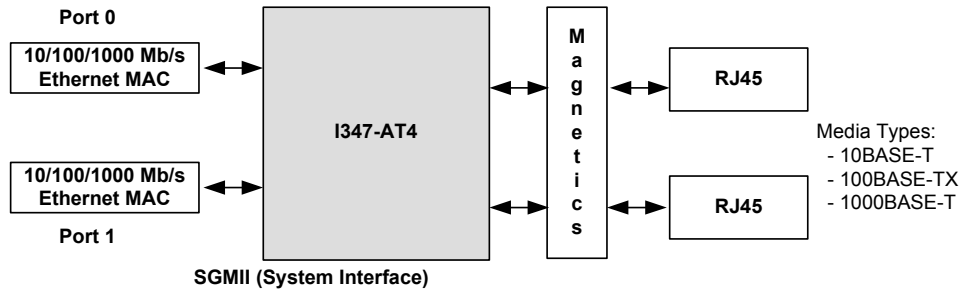
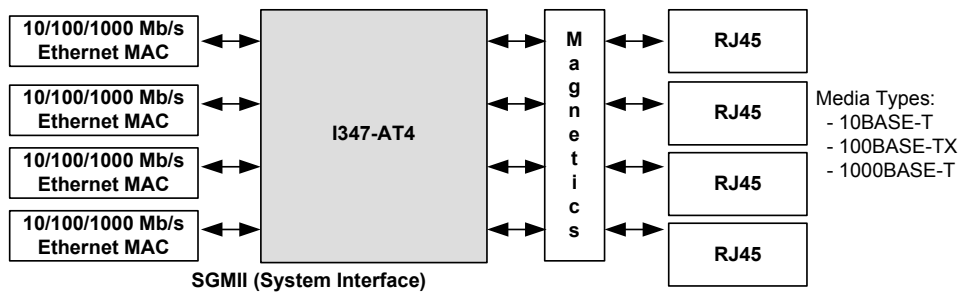

Figure 1. SGMII (System) to Copper – Dual Port Mode
Figure 2. SGMII (System) to Copper – Quad Port Mode
- Two or four ports SGMII-to-copper (see Figure 1 and Figure 2)